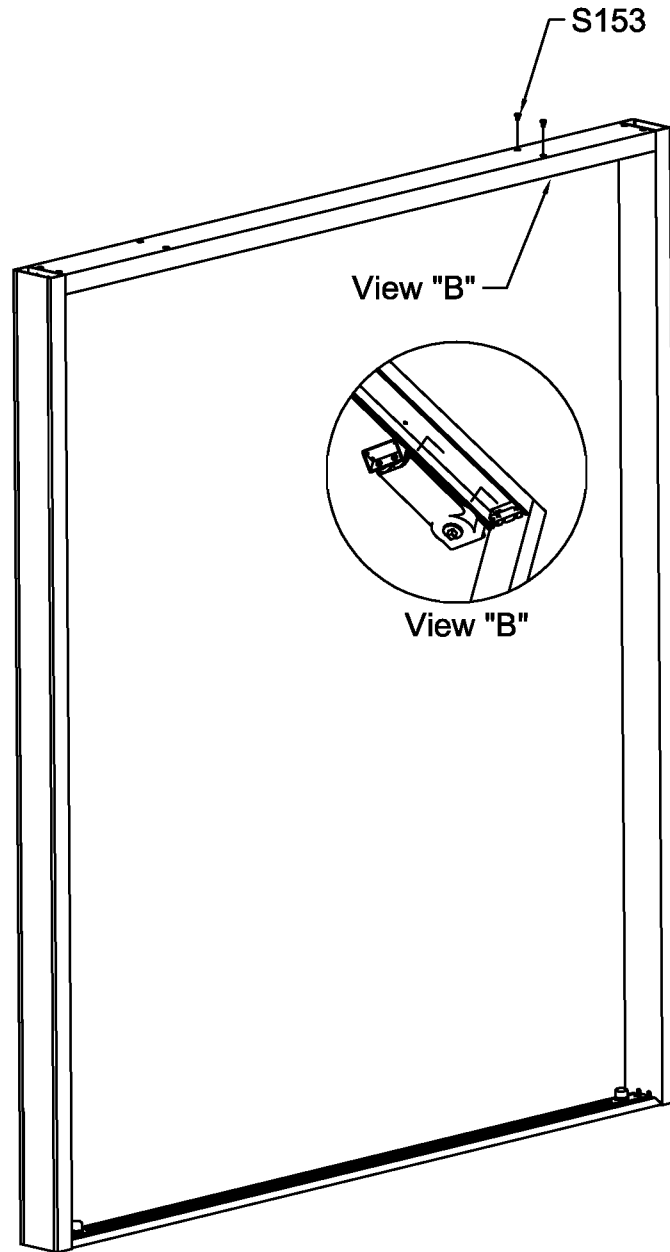

Figure 5
5. Attach closer arm onto closer and tighten screw onto closer spindle. See Figure 5.
11. Hold closer in place and screw S153 screws as shown in Figure 5 from top of frame.